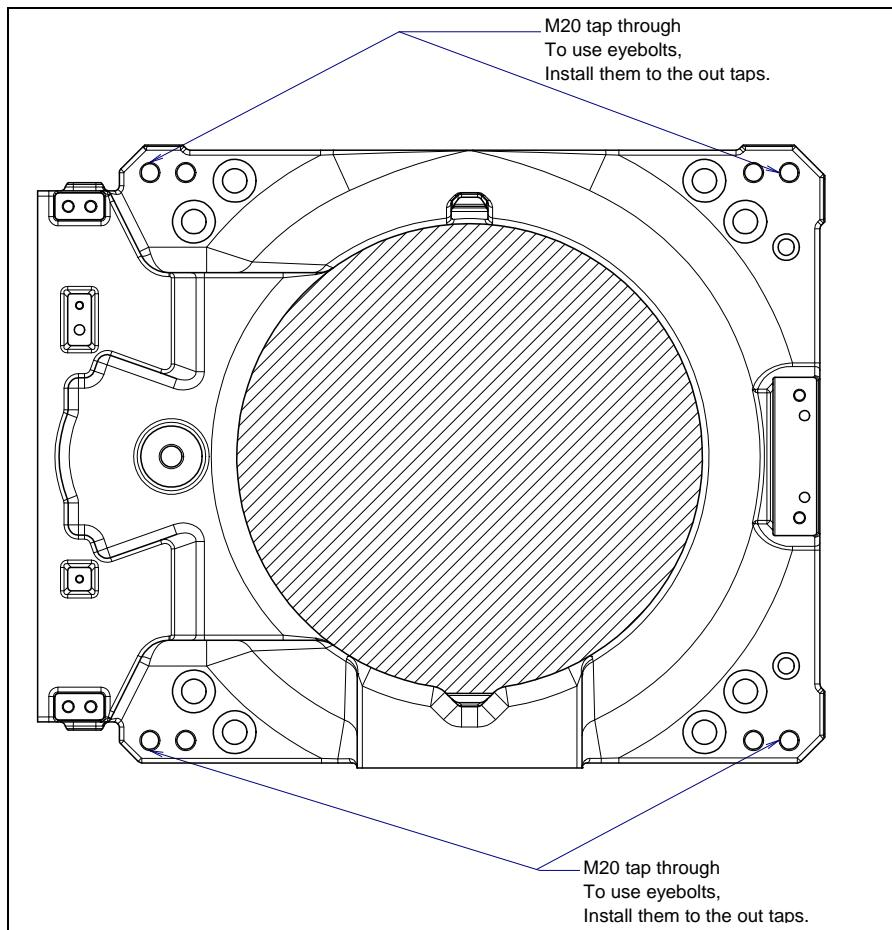

Fig. 1.1 (a) Position of the eyebolts and transportation equipment
(1) Transportation using a crane (Fig. 1.1 (b) to (e))
(2) Transportation using a forklift (Fig. 1.1 (f) to (k))